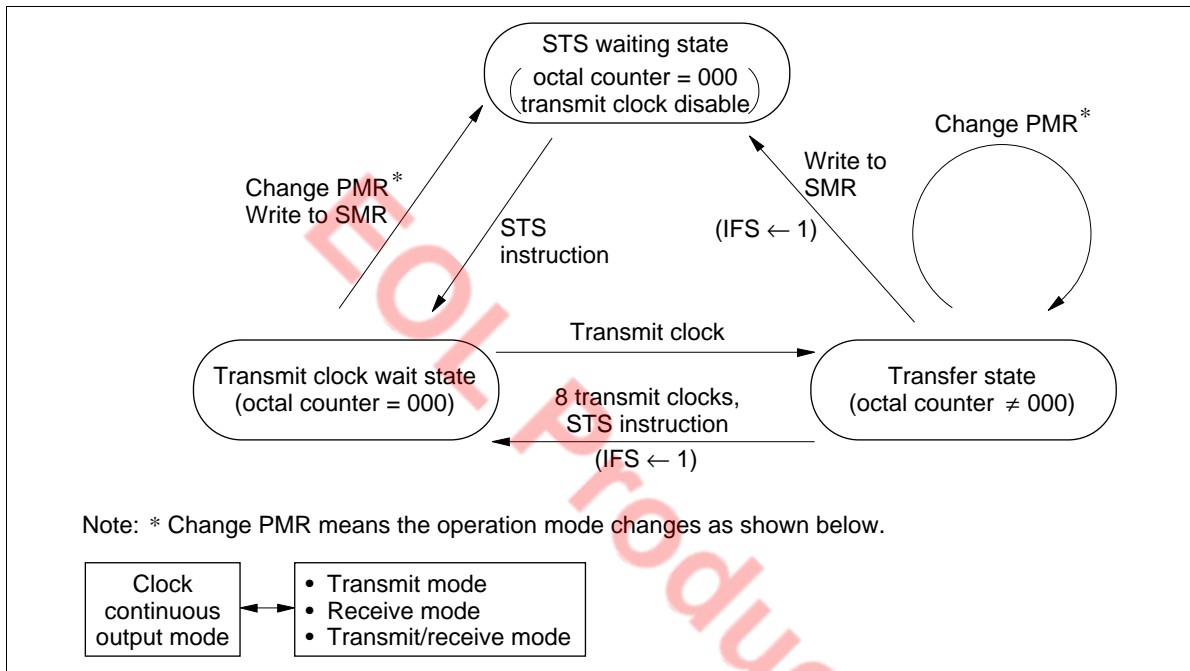

Figure 11 Serial Interface Operation State
**Operating State of Serial Interface:** The serial interface has three operating states: the STS waiting state, transmit clock wait state, and transfer state, as shown in figure 11.